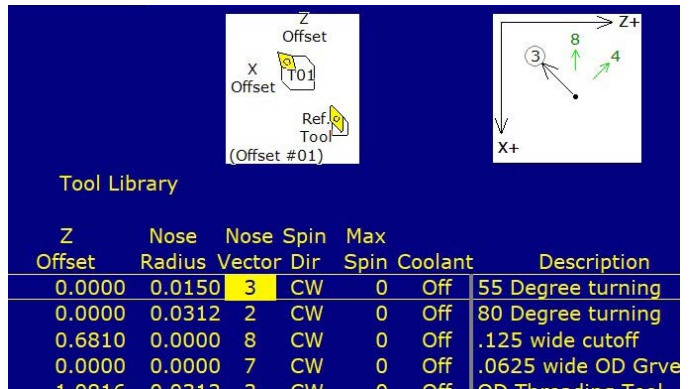

FIGURE 14
2. If you highlight a turning tool that has the Approach set to Front, you will see the Nose Vectors (3, 8, and 4) as shown below. Choose the vector number that represents the orientation of your tool to the part and enter that number for the Nose vector (in this example, “3”), (see Figure 14).